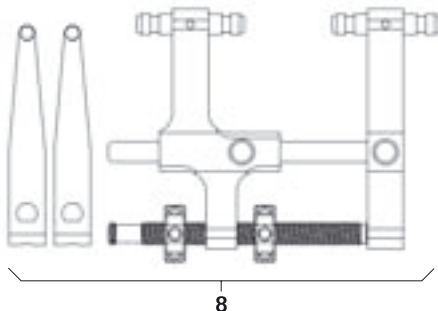

Fig. 12
- Mount distractor **8** with the distraction arms, see Fig. 12.